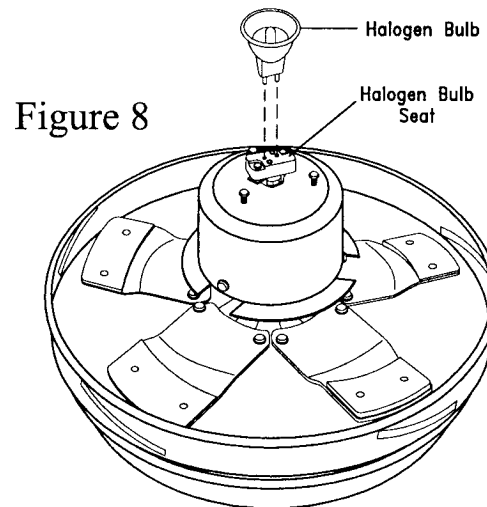

Figure 8
- ☐ 1. Attach the lower motor housing to the upper motor assembly by sliding the lower motor housing onto the three mounting screws located on the bottom of the upper motor assembly as shown in Figure 8.